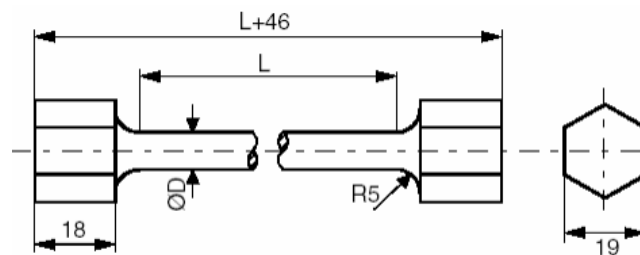

fig.7.1: Torsion test specimen dimensions
7. By joining the two broken halves of the specimen together, measure the final length and diameter of specimen as shown in fig.7.1. (All dimensions are in mm).